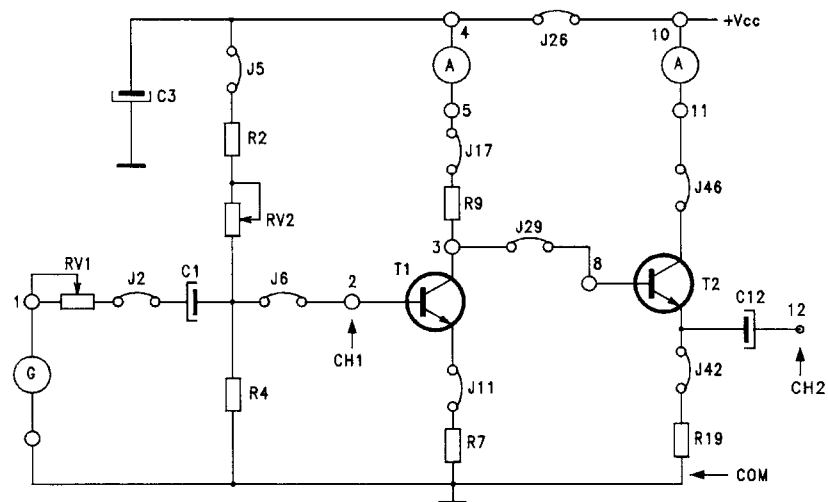

fig. B25.3
- Insert jumpers J2, J5, J6, J11, J17, J26, J29, J42, J46 and the instruments to produce the circuit of fig.B25.3.